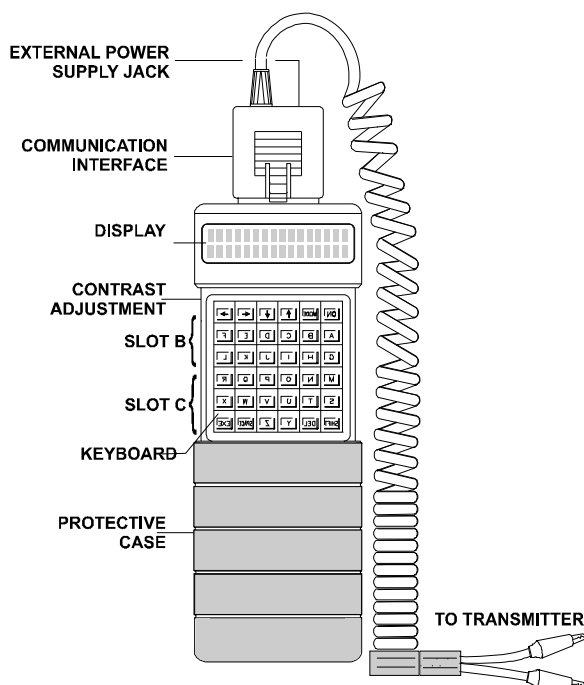

Fig 3.1 - Smar Hand-Held Terminal
The **Hand-Held Terminal** is powered by a 9V PP3 size battery or by a 9 Vdc external power supply (when it is not communicating with the controller) - see specifications on **Section 6 - Technical Specifications** - which can be connected to the jack located in the communication interface (See Figure 3.1). The **Hand-Held Terminal** can also be supplied directly by the controller, if:
-  If the display is not easily readable, adjust the contrast. See Figure 3.1 to locate the contrast adjustment.
The **SMAR Hand-Held Terminal** is, actually, a **Microcomputer** (Figure 3.1) which, at the user's request, performs the execution of a program called "**CD600**", described in **Section 3**. This program is used to develop the control configurations for the **CD600** and to make the microcomputer "talk" with the **CD600**. The program is contained in a "**Program-Pack**", which must be inserted in slot "**B**". See Figure 3.1.